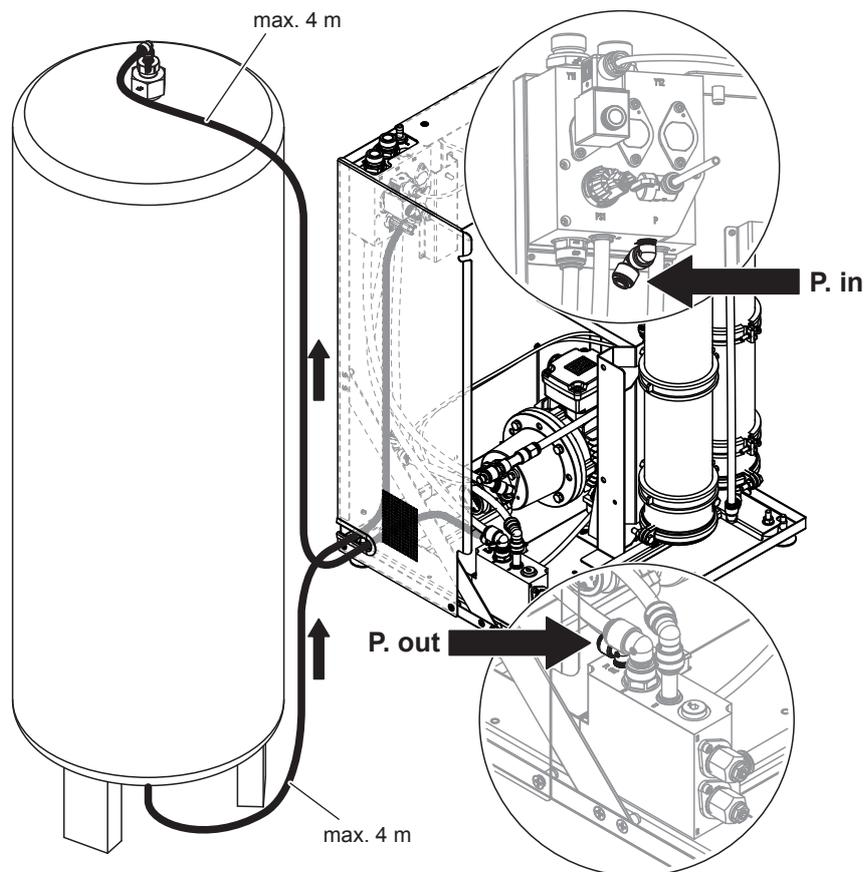
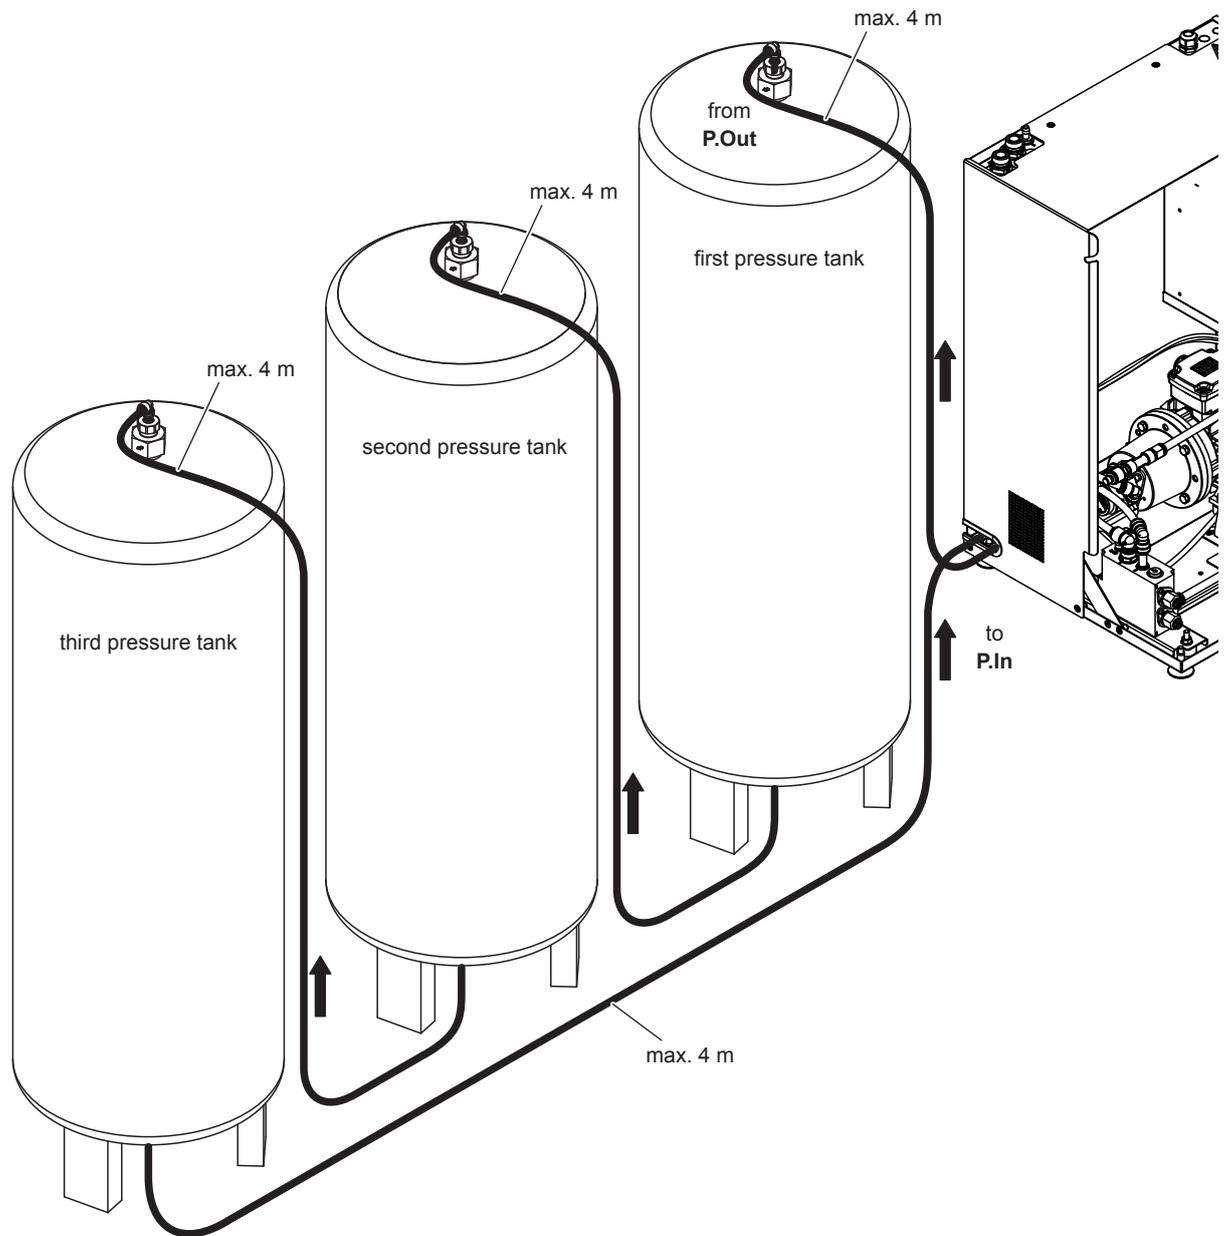

Fig. 11: Connecting the external pressure tank to the Condair RO-E 200/300 pure water system (figure shows RO-E 200)
Fig. 14: Connecting several external pressure tanks to the Condair RO-E(+) pure water system
**Important:** The maximum hose lengths shown in Fig. 11 to Fig. 14 must not be exceeded. Make sure the connection hoses are not routed higher than the connection on top of the pressure tank(s).
4. Connect the supplied black JG hose  $\varnothing 8$  mm to the angle connector of the "P. out" connection of the corresponding logic block (see Fig. 11 or Fig. 12) or of the internal pressure tank (see Fig. 13), and lead the hose to the **upper** connection on the (first) external pressure tank, cut the hose to length and connect it to the angle connector of the pressure tank.
Up to three external pressure tanks can be connected to a RO-E(+) pure water systems according to the schematic diagram shown in Fig. 14.